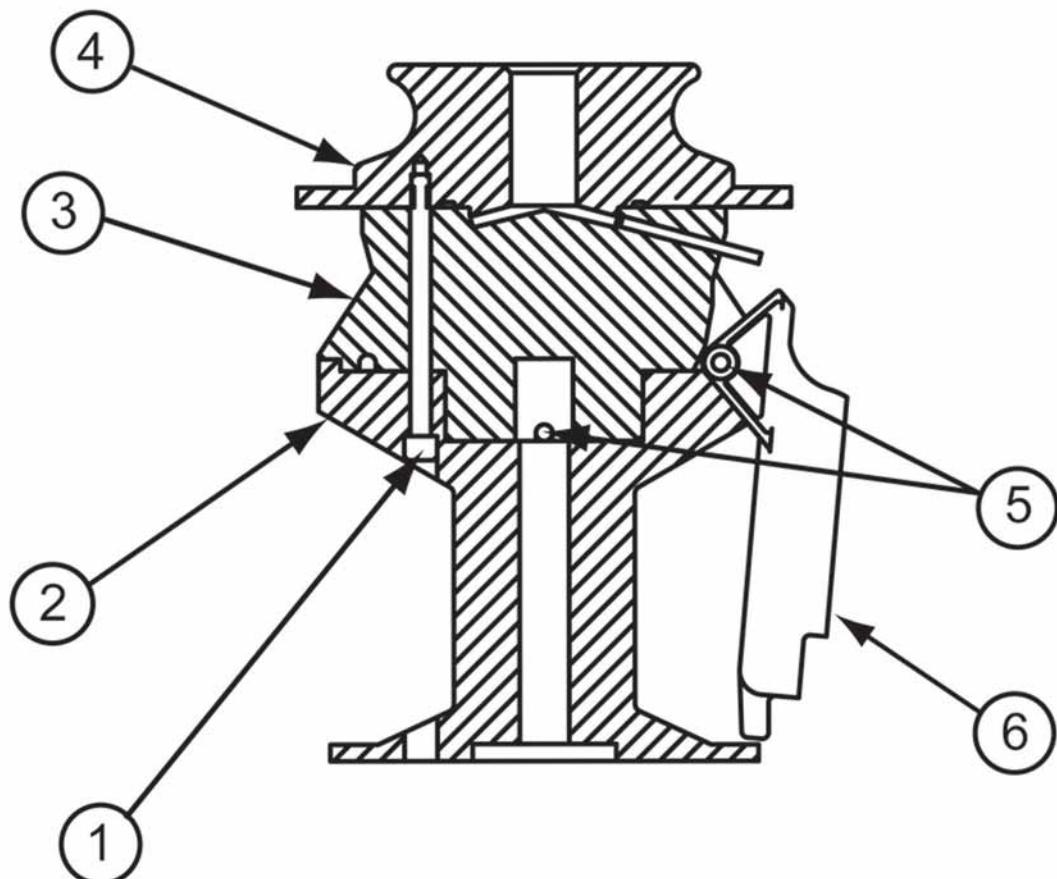

Figure 11-1 Rotor Assembly
2. Remove the three socket head screws (shown #1) in **figure 11-1** using a 7/16 Allen Wrench.